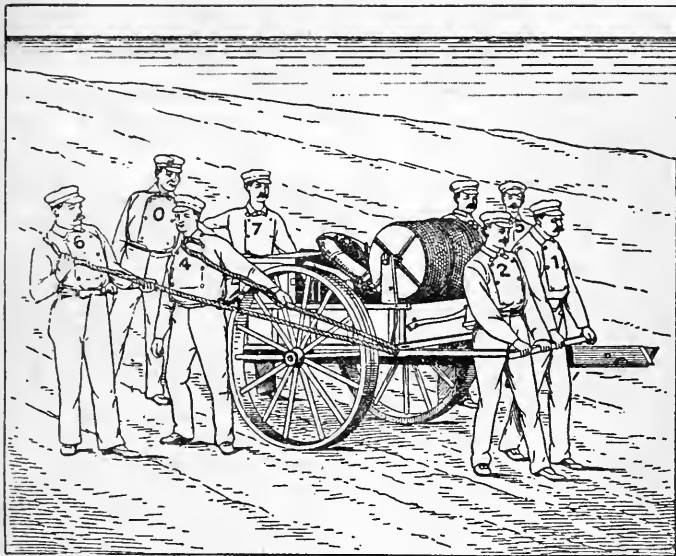

FIG. 2.—Holding back.
(10) If the crew consists of an officer and eight men, *No. 8*, at drill, will go to the wreck pole instead of *No. 7*; in service his duties will be the same as those of *No. 7*.
**378. Forward.**—The beach cart will be hauled from the station to the wreck. When going down the skids or any steep declivity *Nos. 1* and *2* will guide the cart, while *Nos. 3, 4, 5,* and *6* hold back on the drag ropes. (See fig. 2.)